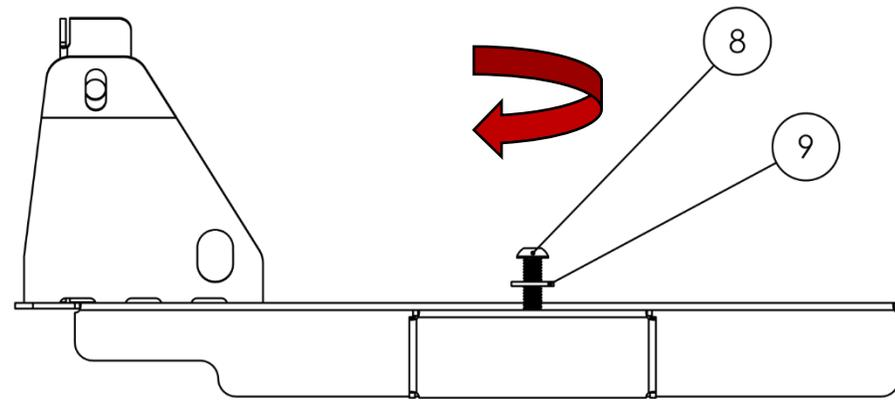

Figure 4
2. **Install the base of the rack.** Begin the installation of the Base Rail (Item No. 3) by bringing the Fleetside Clamp (Item No. 6) into the housing. Make sure that the holes found on the Clamp and the clamp housing line up concentrically. As shown in Figure 4, finish securing the Base Rail by using a 2" Button Head Screw (Item No. 8) and Metal Washer (Item No. 9). **DON'T forget to apply a little grease to the screws before tightening or it may be hard to remove the nuts later.**